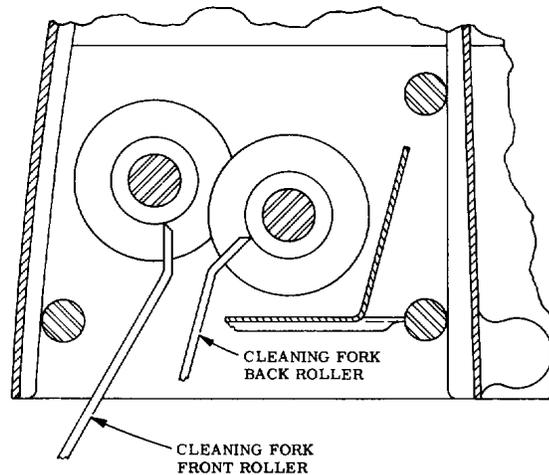

Figure 2
- A.4 Use cleaning fork to clean front set of knives and spacers (Fig. 2).
- A.5 Reverse cleaning fork and clean rear set of knives and spacers (Fig. 2).